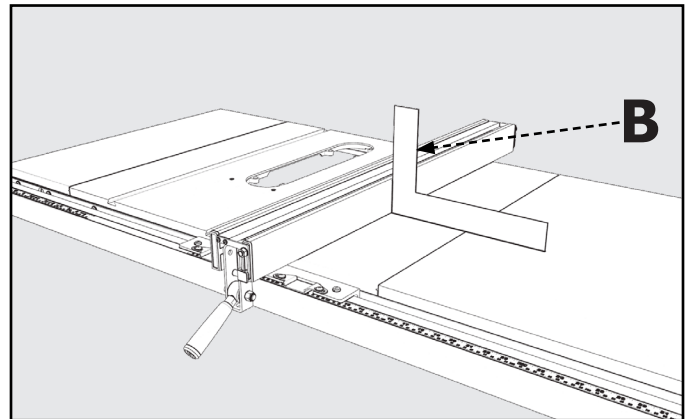

FIGURE 14
2. Using a T-Square (B) placed against the middle of the fence, check to see if the Fence is perpendicular to the table as shown in **Figure 14**.